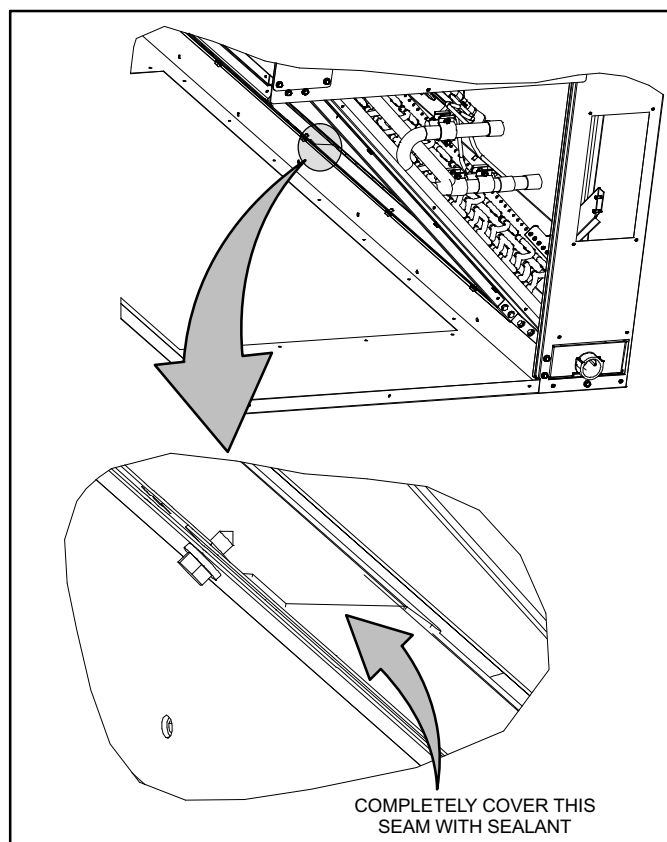

Figure 4. Applying Sealant to Overlapping Drip Shields
9. Apply sealant to the seams where each drip shield overlaps another (see figure 4):
- a TAA072/090/120/150: (1) place
- b TAA180/240: (2) places